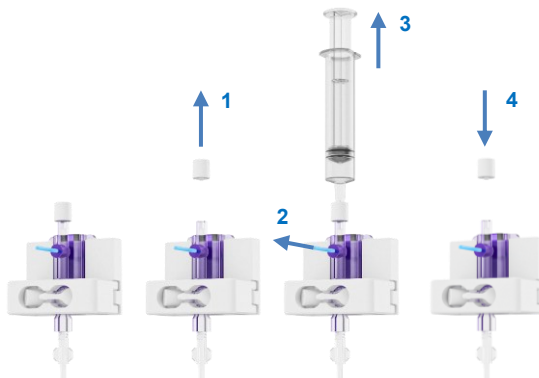

Figure 24 De-airing the pressure sensor
- Remove the cap on top of the pressure sensor and place a sterile syringe on the port (Figure 24; step 1).
- To fill the pressure line and remove any air, pull the blue snap tab (Figure 24; step 2) while aspirating with the syringe (step 3). Stop once the air has been removed.
- Place the cap back on the pressure sensor (Figure 24; step 4)